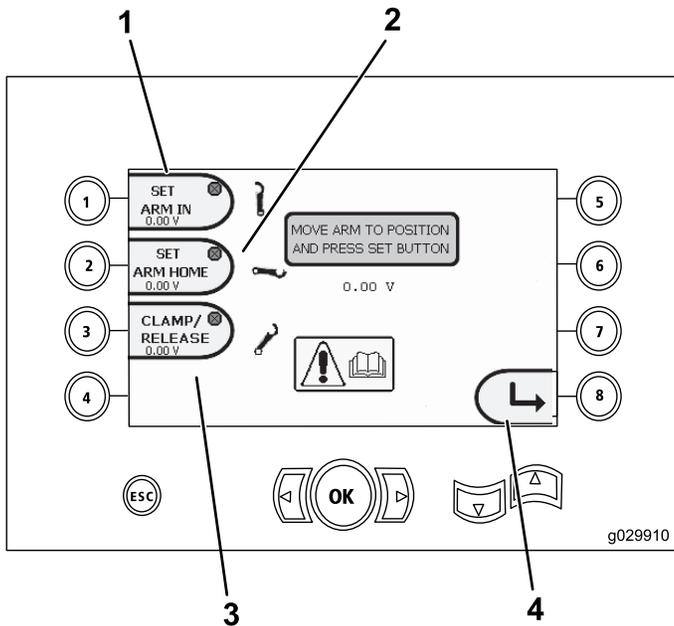

Figure 19
- Button 1—Set arm In (Figure 19)
- Button 2—Set arm Home (Figure 19)
- (Software versions K and up only) Button 3—Clamp/Release (Figure 19)